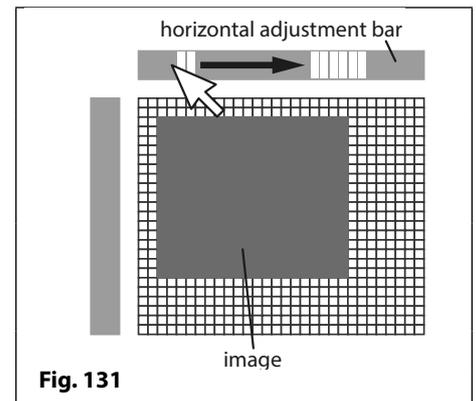

Fig. 131
3. To de-select the 'pixel zone' click and hold down on the left mouse button whilst moving the cursor right and the individual pixels will 'grey out' (de-select) one by one as the cursor continues to move back along the bar, as shown in **Fig.131**.